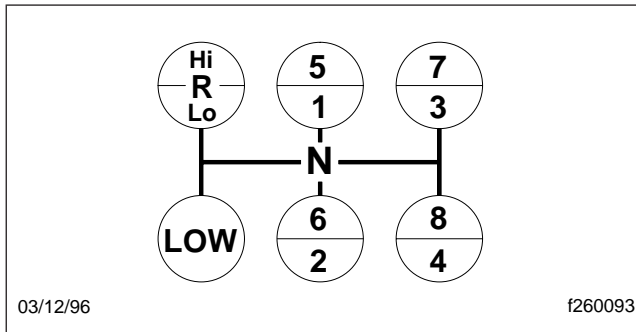

Fig. 5.4, Shift Pattern, 9-Speed Range-Shift Models
Eaton Fuller 9-speed range-shift models are not synchronized. They have nine forward speeds and two reverse speeds. The shift lever controls five forward gears and one reverse gear in the transmission front section, and the range lever controls a LO and HI range in the two-speed auxiliary section. The first position in the front section is used only as a starting gear. The other four ratios are used once in LO range and once again in HI range. See Fig. 5.4 for the shift pattern.
1. Position the gear shift lever in neutral. See Fig. 5.4 for the shift pattern. Start the engine, and bring the air system pressure up to 95 to 125 psi (655 to 862 kPa).